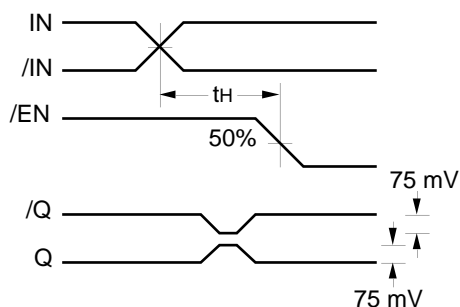

Figure 2. Hold Time
6. The hold time is the minimum time that /EN must remain asserted after a negative going IN or a positive going /IN to prevent an output response greater than $\pm 75\text{mV}$ to that IN, /IN transition (see Figure 2).